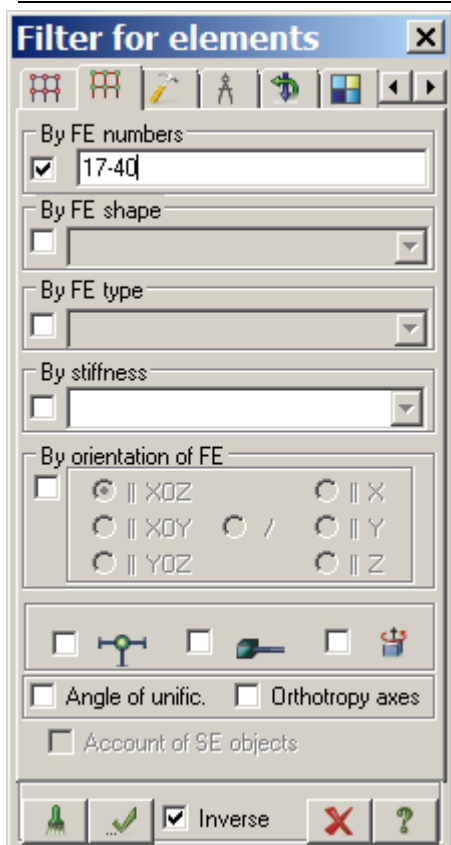

Figure 5.11 Filter for elements tab
- ⇒ In the **PolyFilter** dialog box, select the **Filter for elements** tab (the second tab) (see Fig.5.11).